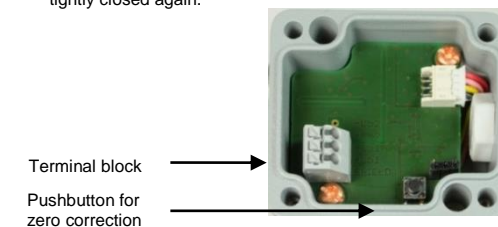

Fig. 3: Connection diagram
The LPT 100 can be zeroed via a button. To do so, press the button (Fig. 3) for about 3 seconds.
- Press the button (Fig. 3) for about 3 seconds.